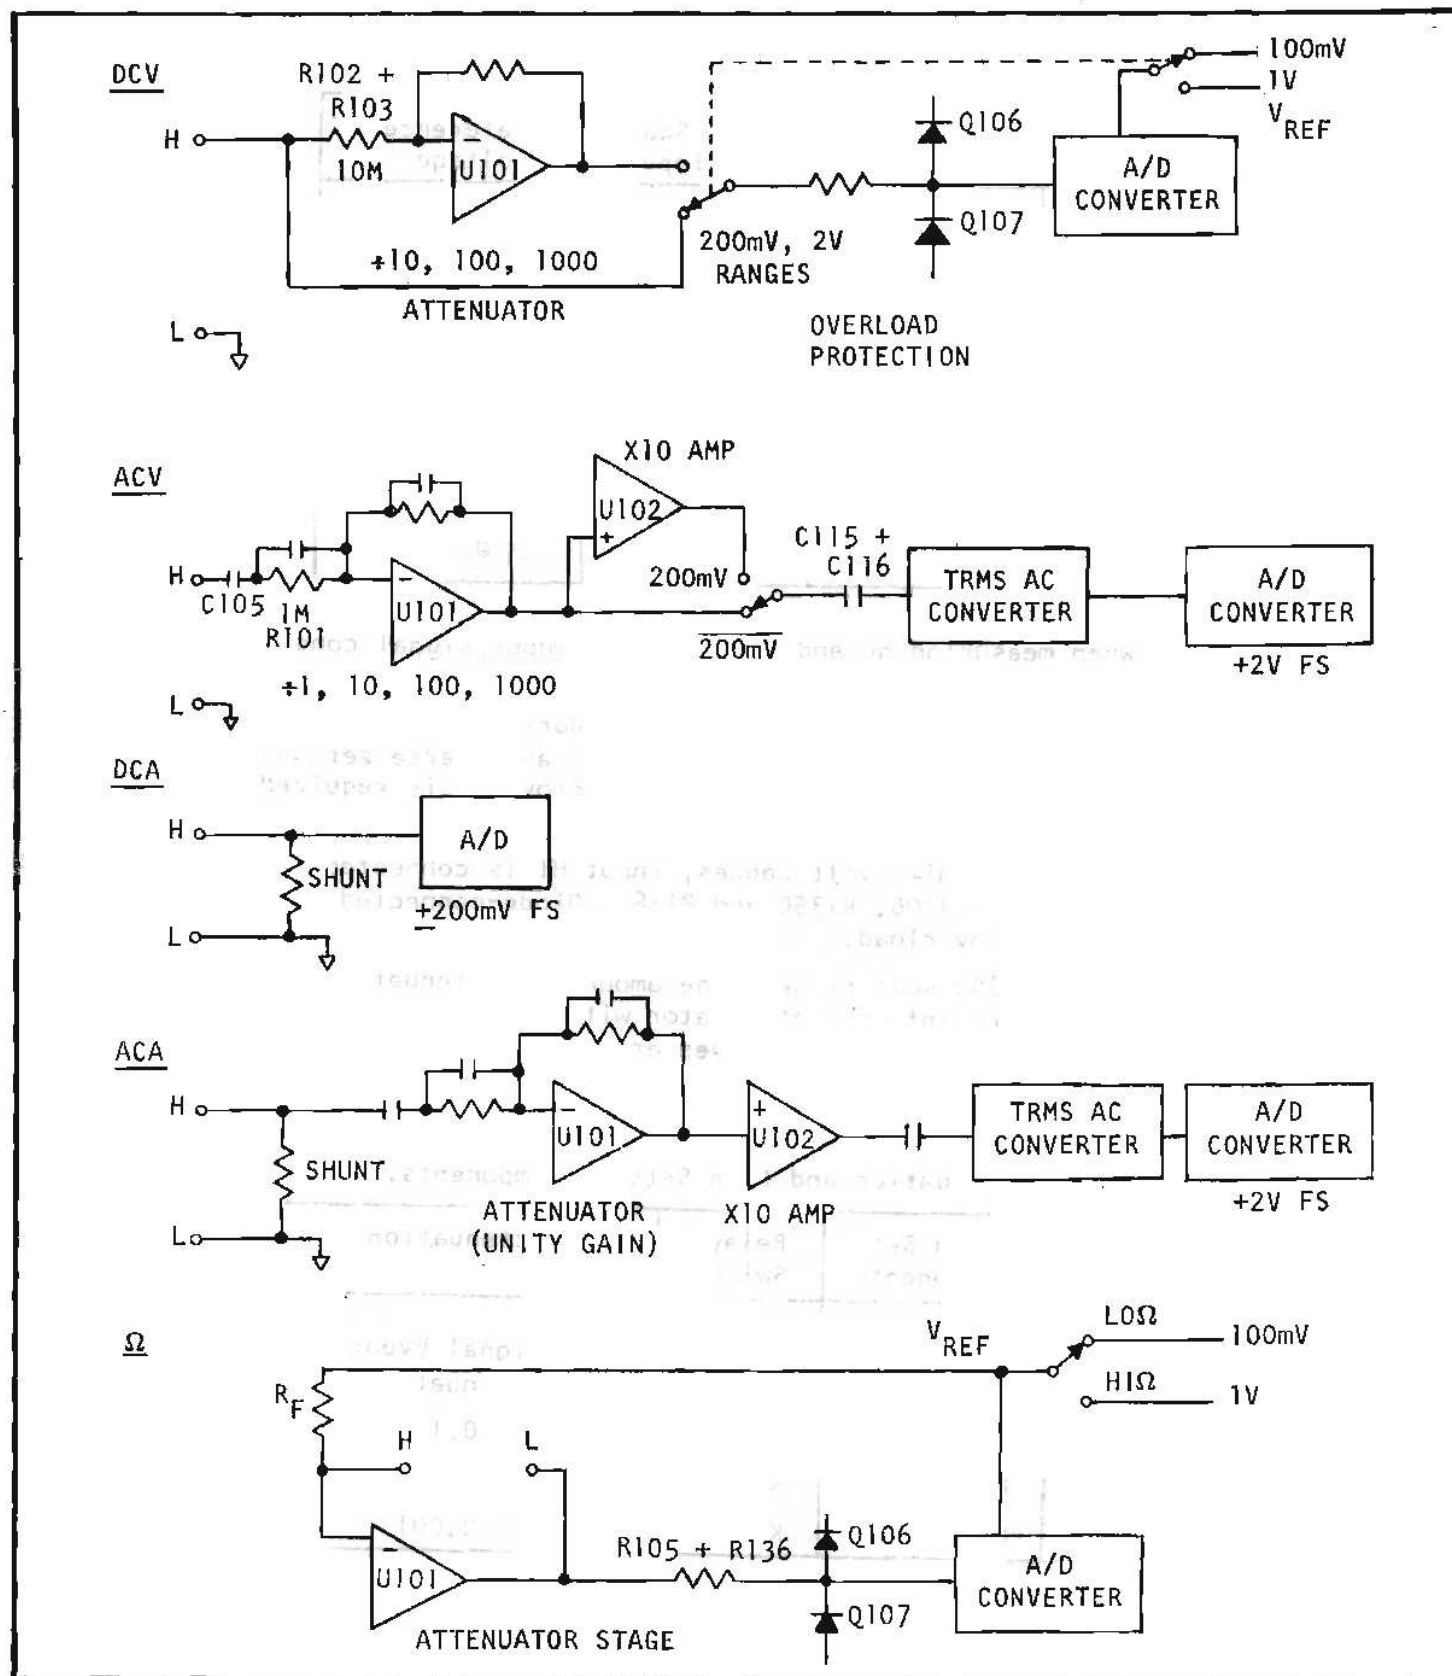

FIGURE 6-2. Attenuation and Ohms Conversion.
a. Signal Conditioning. Signal conditioning includes dc attenuation (except on the 2 volt and 200 millivolt ranges), ac attenuation and X10 amplification, ac-to-dc conversion, ohms conversion and current shunts as shown in Figure 6-2.